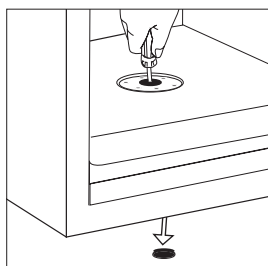

Figure 4
4. Tilt the safe onto it's back side and stick a screwdriver into the hole to punch-out the bottom hole cover plug (Figure 4).